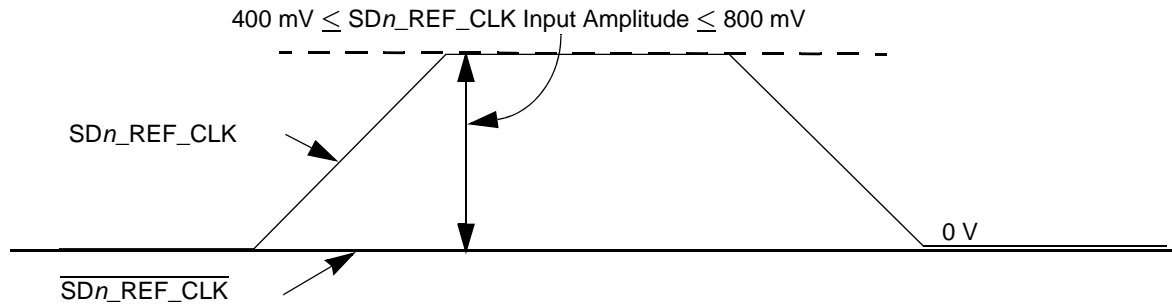

Figure 47. Single-Ended Reference Clock Input DC Requirements
- The SDn\_REF\_CLK input average voltage must be between 200 and 400 mV. Figure 47 shows the SerDes reference clock input requirement for single-ended signaling mode.